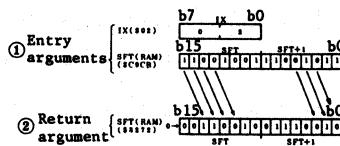

Fig. 1 Example of SHR execution
(b) Fig. 1 shows example of SHR execution. If entry arguments are held as shown in part ① of Fig. 1, 16-bit binary data is shifted to right as shown in part ② of Fig. 1.
(2) User Notes